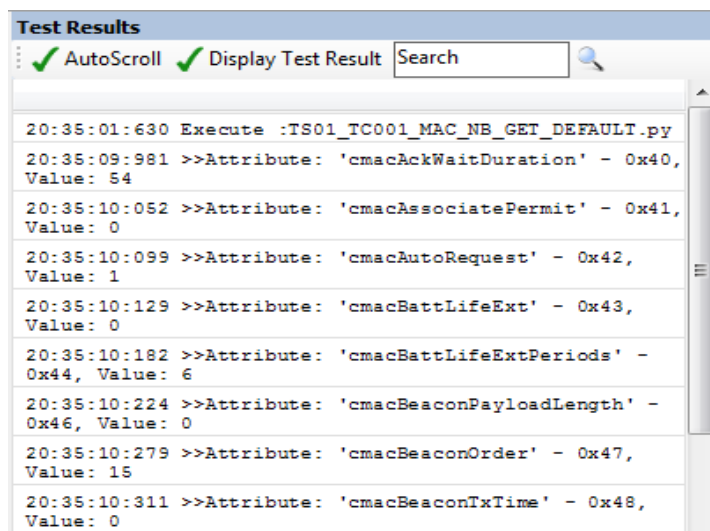

Figure 3-5. Test Results
- The progress and result output is displayed in Test Results area of the Script Server window as shown in Figure 3-5.